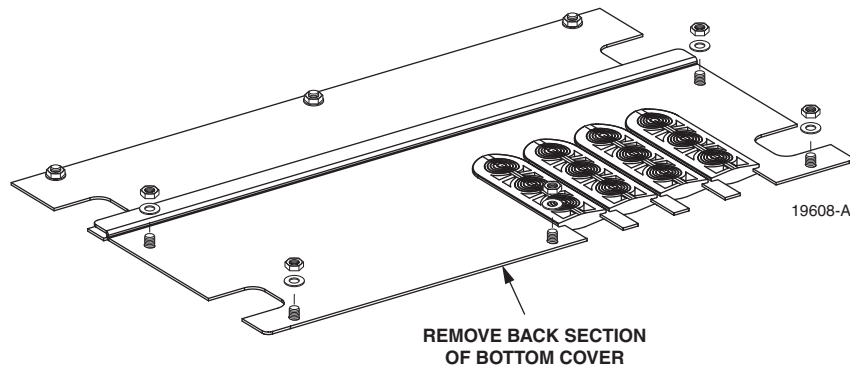

Figure 12. Bottom Cover Cable-Entry Section Removal
2. Remove the five lock nuts and five flat washers that secure the cable-entry section of the bottom cover to the cabinet as shown in Figure 12. Save the nuts and washers for reuse.